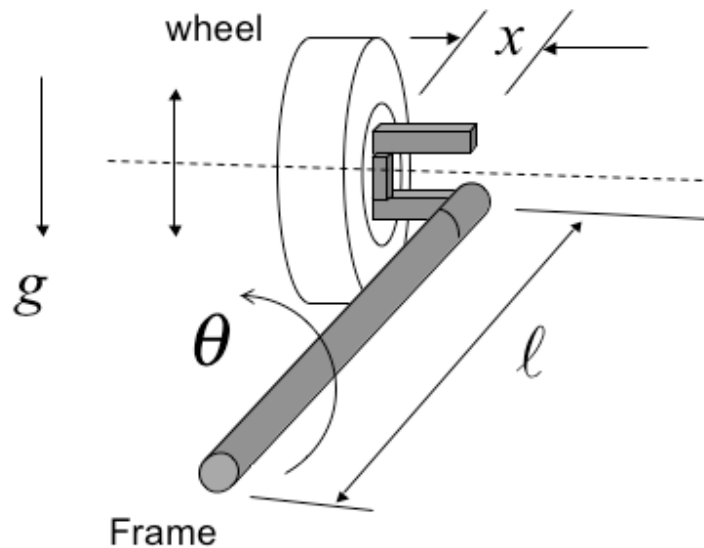

Figure P1.27
- 1.27** The front suspension of some cars contains a torsion rod as illustrated in Figure P1.27 to improve the car's handling. (a) Compute the frequency of vibration of the wheel assembly given that the torsional stiffness is 2000 N m/rad and the wheel assembly has a mass of 38 kg. Take the distance $x = 0.26$ m. (b) Sometimes owners put different wheels and tires on a car to enhance the appearance or performance. Suppose a thinner tire is put on with a larger wheel raising the mass to 45 kg. What effect does this have on the frequency?